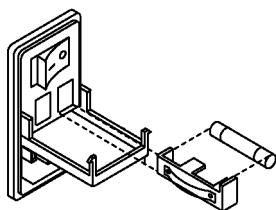

Figure 4-2. Removing Fuse from Fuse Holder
3. Slide the fuse holder straight out of the power input module, then remove the fuse from the fuse holder as shown in Figure 4-2.